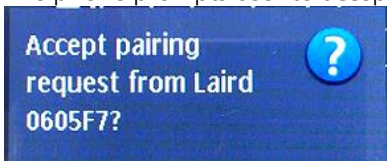

Figure 64: Accept pairing
3. The phone prompts user to accept the pairing request (Figure 64).